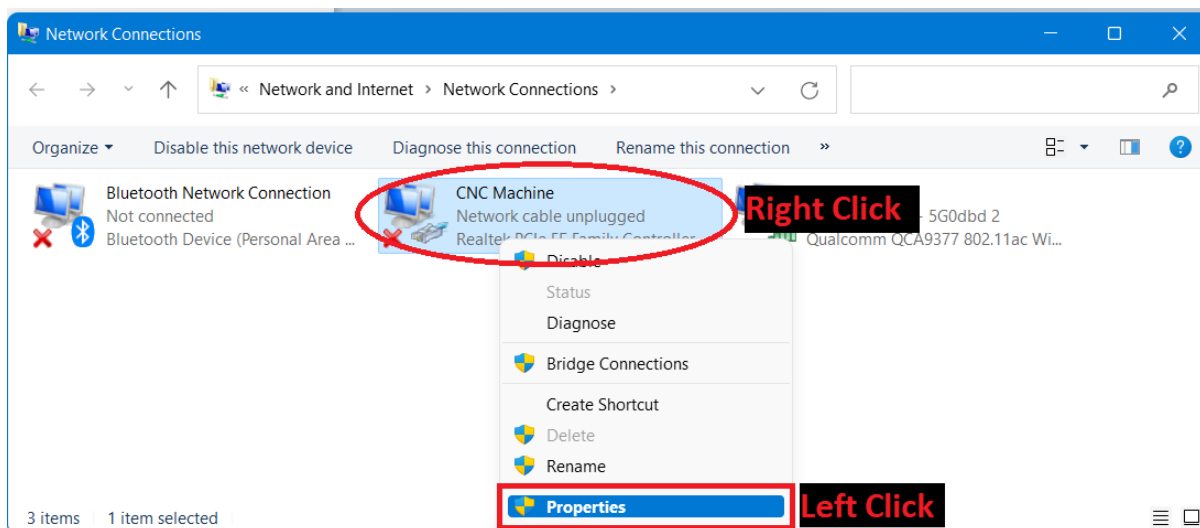

Figure 16: Network Properties
This is just a name to allow you or any PC support personal to see the connection has been renamed and edited from default settings. You can call it anything to easily identify it like “CNC” or “i2R” or “CNC Machine”. The name does not affect the function of the machine. See Figure 16
- 3- After finding and optionally renaming the connection it is time to setup the network parameters. To setup the connection with direct cable connection to your CNC machine, right click on the renamed connection and on the pop-up window left click the Properties button. Please note that for this action to work the user must have administrator rights in the Windows account. See Figure 16.